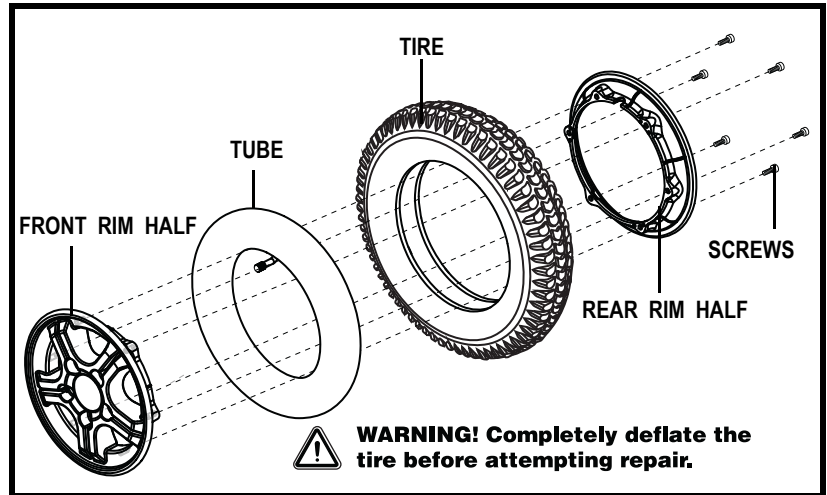

Figure 26. Quantum 6000 Drive Wheel Disassembled
6. Remove the screws and separate the front and rear rim. See figure 26.
10. Reinstall the five (5) lug nuts onto the wheel hub and tighten.